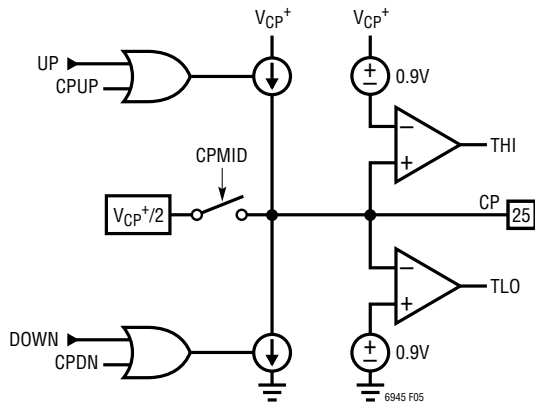

Figure 5. Simplified Charge Pump Schematic
The charge pump, controlled by the PFD, forces sink (DOWN) or source (UP) current pulses onto the CP pin, which should be connected to an appropriate loop filter. See Figure 5 for a simplified schematic of the charge pump.
The CPCHI and CPCLO bits found in register h0A enable the high and low voltage clamps, respectively. When CPCHI is enabled and the CP pin voltage exceeds approximately  $V_{CP^+} - 0.9V$ , the THI status flag is set, and the charge pump sourcing current is disabled. Alternately, when CPCLO is enabled and the CP pin voltage is less than approximately 0.9V, the TLO status flag is set, and the charge pump sinking current is disabled. See Figure 5 for a simplified schematic.